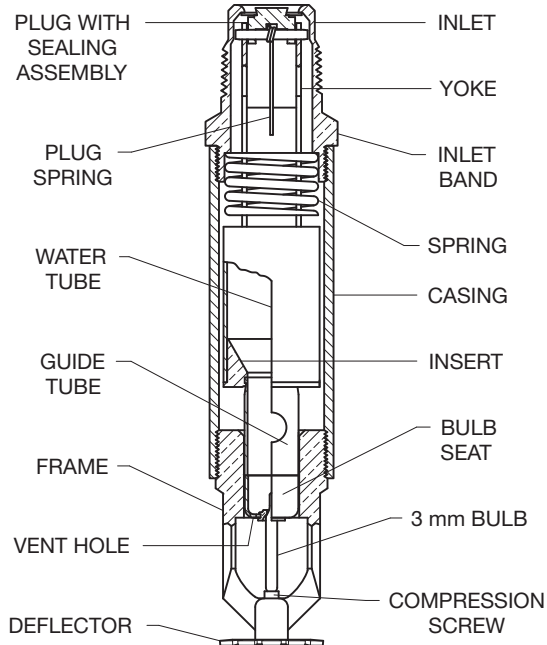

FIGURE 1
When the TYCO Series DS-1 Dry-Type Sprinklers, 5.6K Pendent, Upright, and Horizontal Sidewall, Quick Response (3 mm bulb) and Standard Coverage are in service, water is prevented from entering the assembly by the Plug with Sealing Assembly in the Inlet of the Sprinkler. See Figures 1 and 2.
- a pipe wrench on the Inlet Band or the Casing (Ref. Figures 1 and 2)